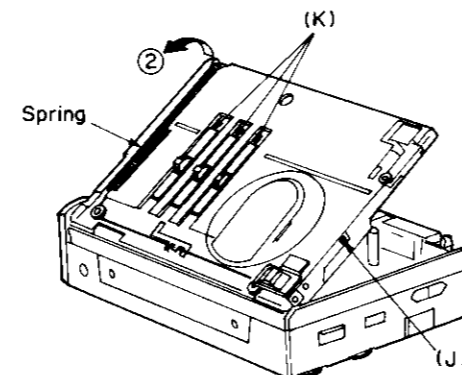

Fig. 5
3. Remove the spring in the direction of the arrow ②. (Fig. 5)
4. Remove the knob (K) × 3. (Fig. 5)